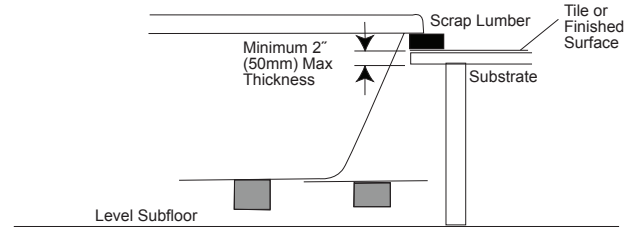

Figure 9 - Drop-In (side view)
- 8 Inspect all fittings, plumbing, and control lines after inserting the bathtub to insure the components are not damaged, disconnected, or contacting the finish surface substrate or support members (Figure 9).